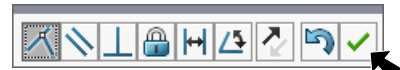

Fig. 8
Step 4. Click Add/Finish Mate  in Mate pop-up toolbar to add a **Coincident** mate, **Fig. 8**.